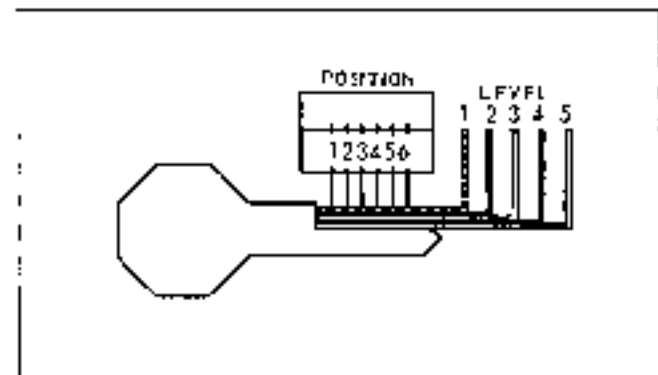

Fig. 0-10 Key Coding Diagram
1. Place the key on the silhouette in Fig. 0-10, aligning the key with the outline as accurately as possible.